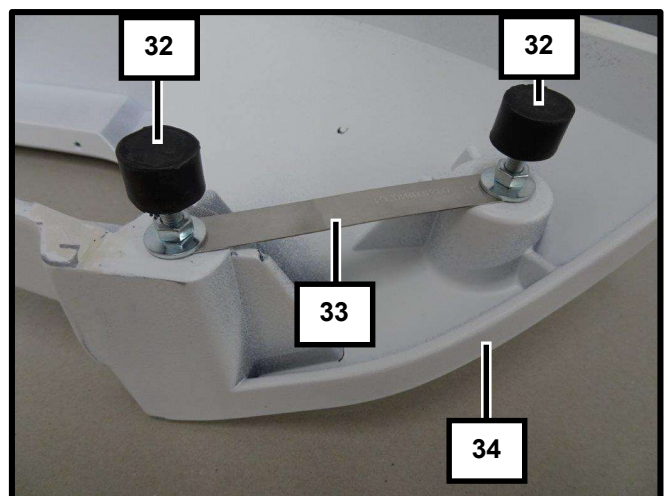

Fig. 47
**Adjust the height with the stoppers (32) (Fig. 47 and 48) in such way that the base frame fits perfectly.**